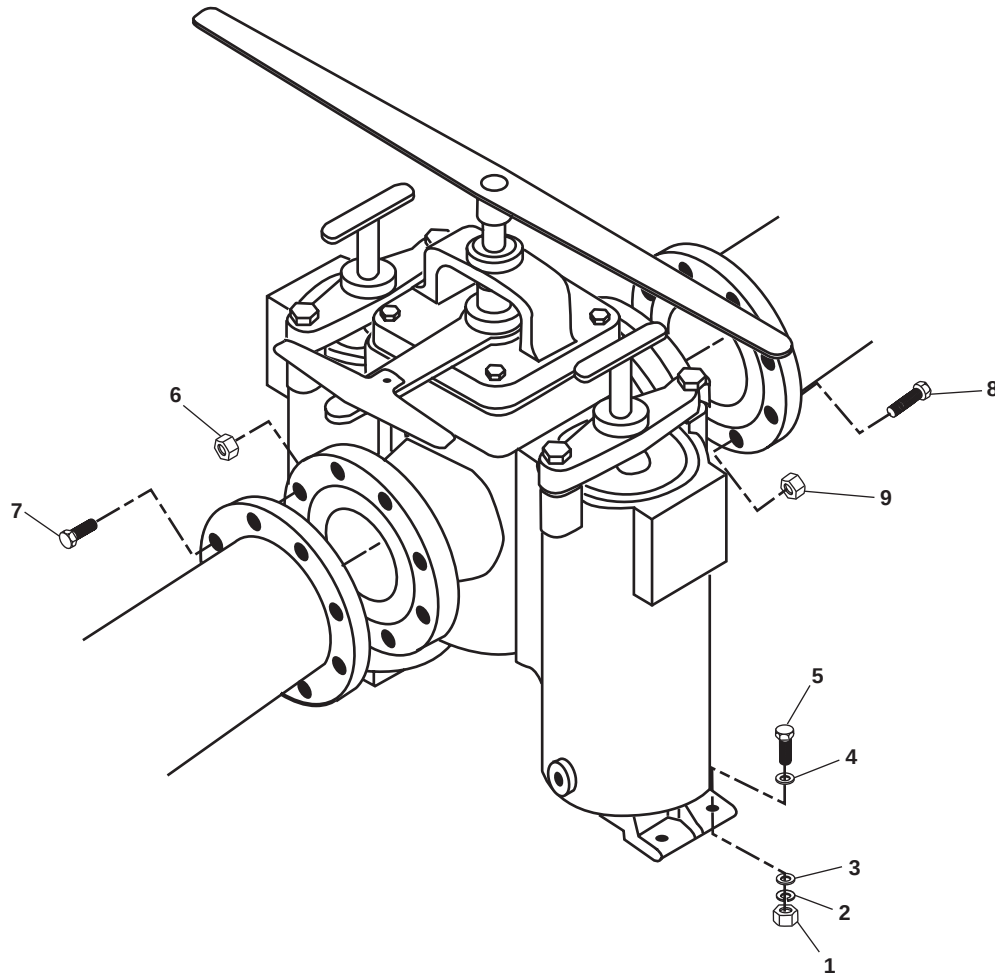

Figure 2. Strainer Hardware Replacement
2. Remove the nuts (figure 2, item 1), lockwashers (figure 2, item 2), flat washers (figure 2, items 3 and 4), and bolts (figure 2, item 5). Discard the lockwashers and any damaged or corroded fasteners.
3. Remove the nuts (figure 2, item 6) and bolts (figure 2, item 7). Discard any damaged or corroded fasteners.
4. Remove the bolts (figure 2, item 8) and nuts (figure 2, item 9). Discard any damaged or corroded fasteners.
1. Install the bolts (figure 2, item 5), and flat washers (figure 2, items 3 and 4), new lockwashers (figure 2, item 2), and nuts (figure 2, item 1).
2. Install the bolts (figure 2, item 7) and nuts (figure 2, item 6).
3. Install the bolts (figure 2, item 8) and nuts (figure 2, item 9).